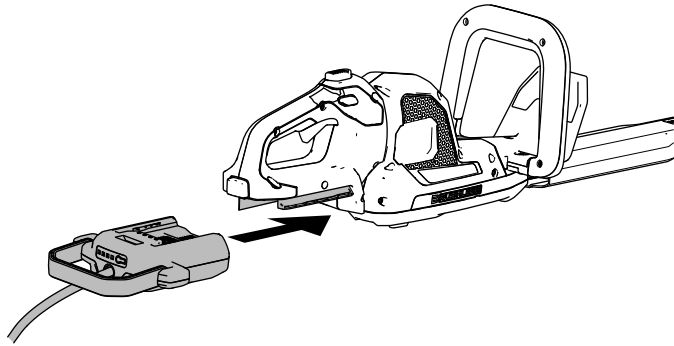

Figure 5
2. Align the battery connector and insert it into the tool until it locks into the latch as shown in Figure 5.